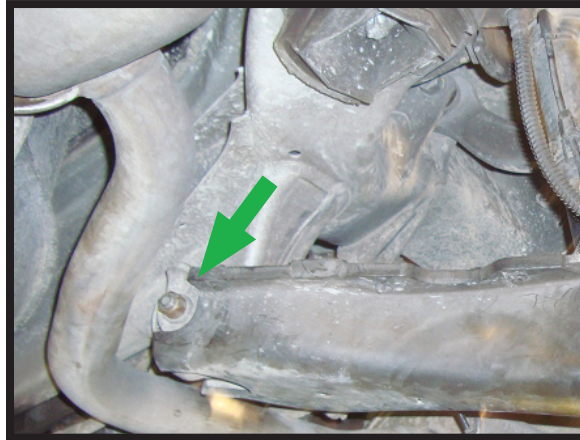

FIGURE 25
12. LOOSEN THE LOWER CONTROL ARM NUT SLIGHTLY (THIS WILL ALLOW THE LOWER CONTROL ARM TO SWING DOWN). (FIGURE 25)